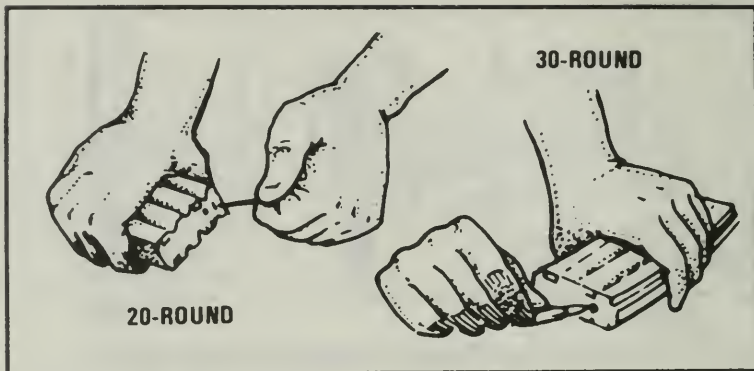

Figure 87. Releasing the base catch of the magazine.
- a. Release the base catch (Figure 87).